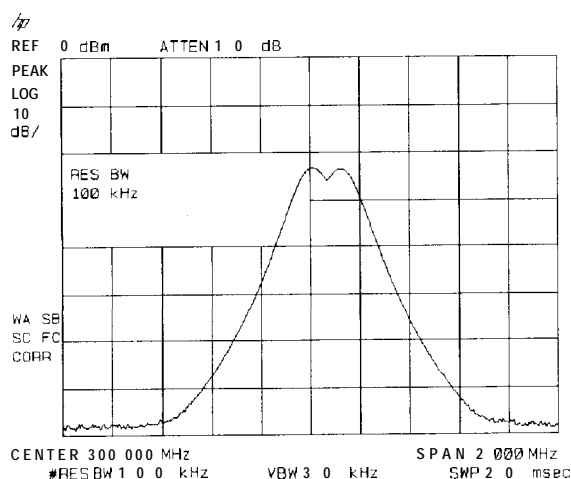

Figure 3-2. Resolving Signals of Equal Amplitude
Generally, to resolve two signals of equal amplitude, the resolution bandwidth must be less than or equal to the frequency separation of the two signals. If the bandwidth is equal to the separation a dip of approximately 3 dB is seen between the peaks of the two equal signals, and it is clear that more than one signal is present. See Figure 3-2.
**Note** When using an HP 8590L with Option 713 or an HP 8592L with Option 713, and the signal peak cannot be found, increase the span to 20 MHz by pressing **(SPAN) 20 (MHz)**. The signal should be visible. Press **(PEAK SEARCH)**, **(MKR FCTN)**, **MK TRACK ON OFF (ON)**, then **(SPAN) 2 (MHz)** to bring the signal to center screen. Then press **MK TRACK ON OFF** so that **OFF** is underlined to turn the marker track function off.
4. Since the resolution bandwidth must be less than or equal to the frequency separation of the two signals, a resolution bandwidth of 100 kHz must be used. Change the resolution bandwidth to 100 kHz by pressing **(BW) 100 (kHz)**. Two signals are now visible as in Figure 3-2. Use the knob or step keys to further reduce the resolution bandwidth and better resolve the signals.